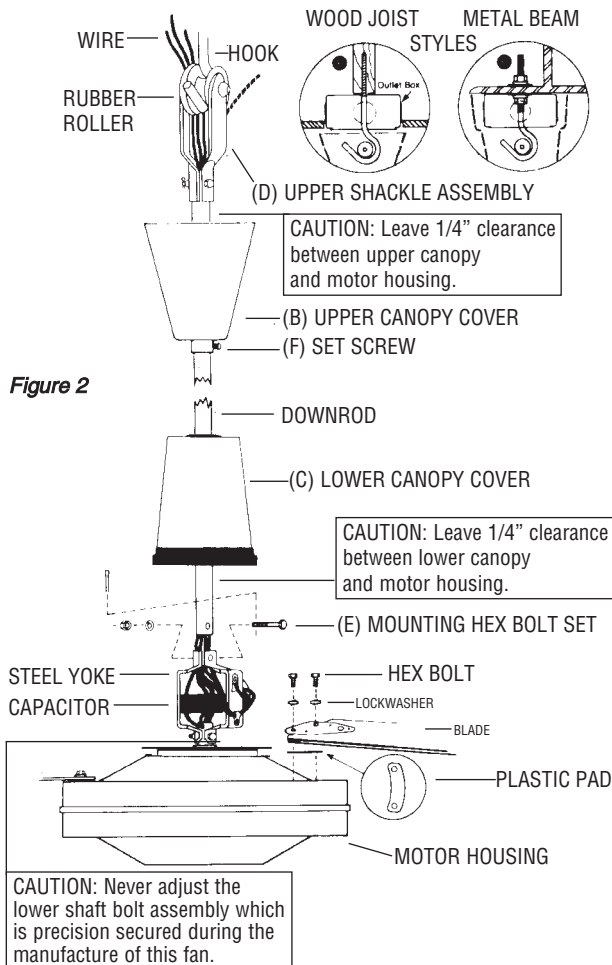

Figure 2
(Refer to Figure 2.)
**CAUTION:** Blades must be fastened to the motor as shown in Figure 2. DO NOT reverse blades when installing.